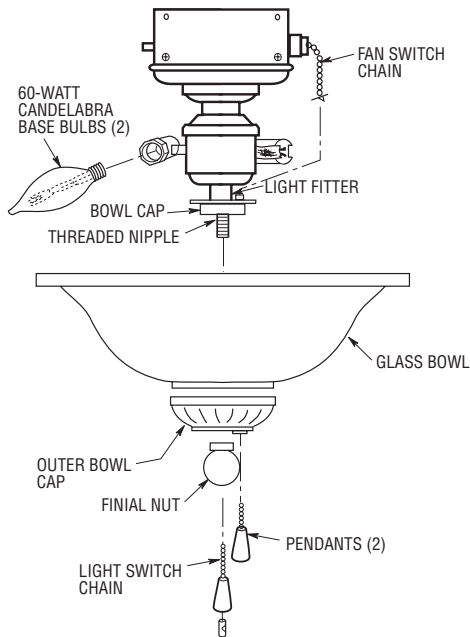

Figure 8
- 15. Install two 60-watt (maximum) candelabra base light bulbs into the light fitter sockets (Figure 8).
- 16. Remove the finial nut and outer bowl cap from the light fitter (Figure 8).
- 17. Pass the fan switch chain through the cut-slotted hole in the bowl cap (Figure 8).